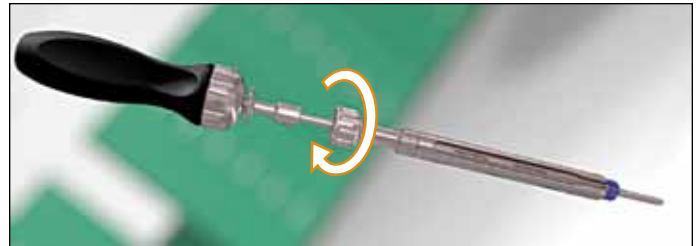

FIG. 19
- Place the Screw Driver into the Screw Extension. Secure the Screw Driver to the screw by seating the hex on the distal tip of the Screw Driver into the screw. Then press down and rotate the wheel on the proximal end of the Screw Driver clockwise until tight. (FIG. 19)